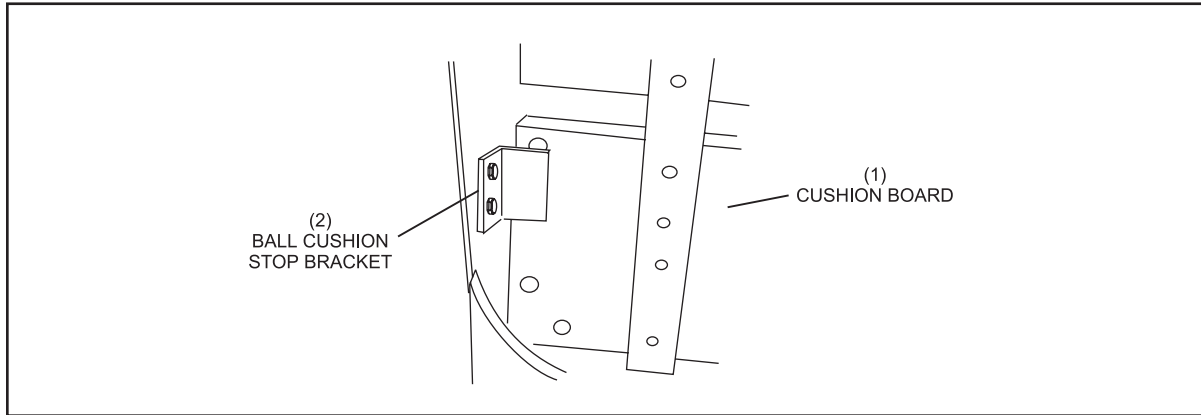

Figure 5-10. Ball Cushion Stop Bracket
1. The ball cushion stop is attached to the ball accelerator housing. Pull the cushion back and position the stop flush against the board. Refer to *Figure 5-10*.